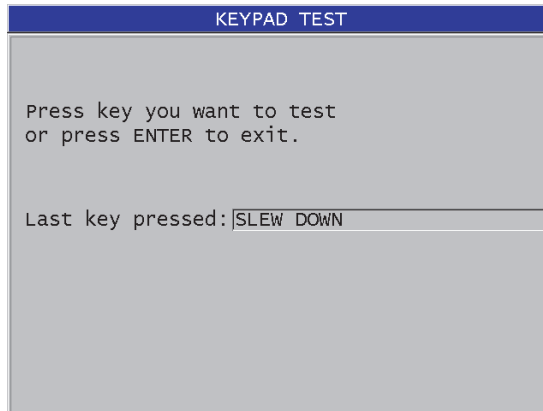

Figure 15-2 The KEYPAD TEST screen
4. When **KEYPAD TEST** is selected, in the **KEYPAD TEST** screen (see Figure 15-2 on page 288):